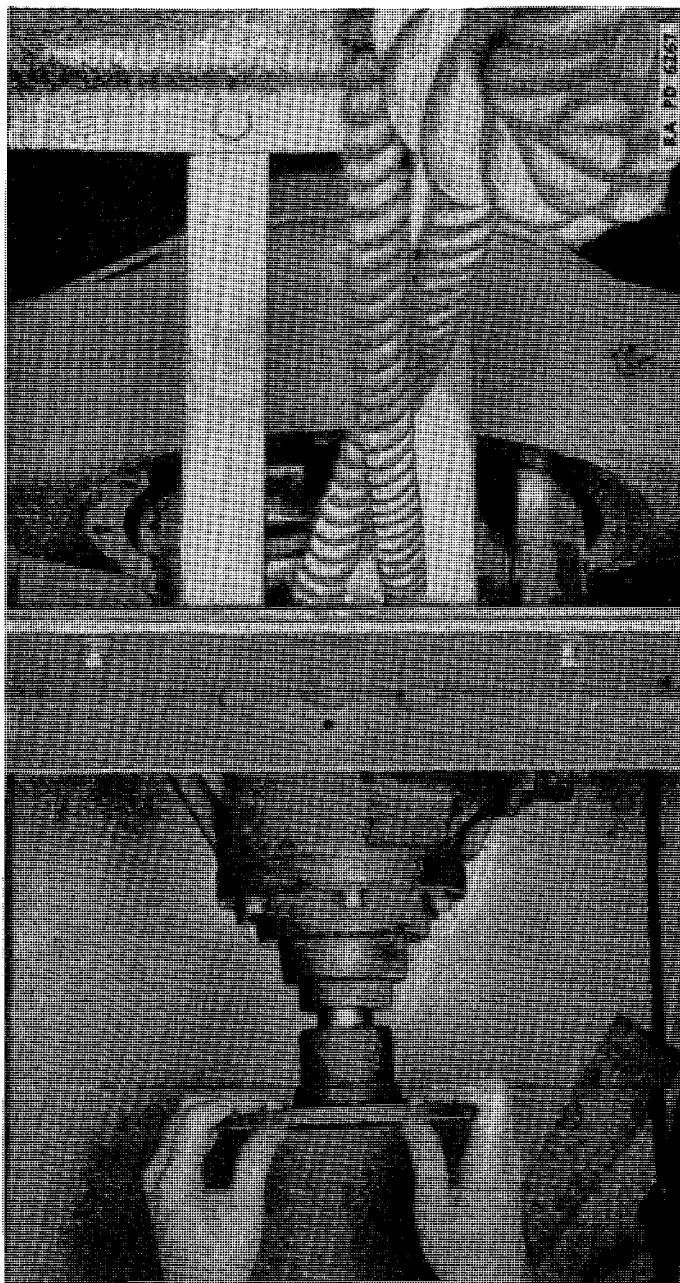

FIGURE 49.—Rear axle differential assembly removal.
(4) Break differential housing— $\frac{5}{8}$ -inch socket wrench, center punch, hammer. Remove twelve $\frac{7}{16}$ -inch bolts (BANX1DD) around differential housing. Mark halves so they can be replaced correctly.
(5) Pull out assembly—lifting fixture, sling. Pull the assembly part way out, attach lifting fixture to one cap screw hole, and hook onto sling. Remove unit and lower to floor (figs. 49 and 50).